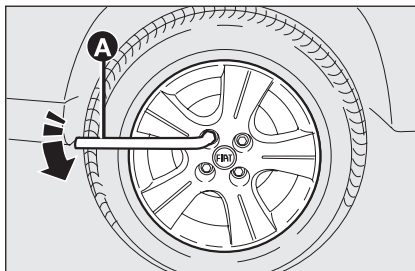

fig. 5
- loosen the bolts on the wheel to be replaced with the wrench provided **A-fig. 5**;